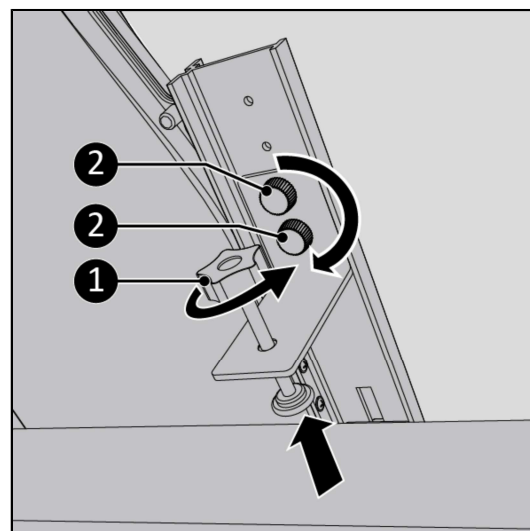

Figure 100.
11. Screw the clamping screw all the way back (Figure 100, pos. 1). If there is no space to fix the clamp bracket, this can be omitted. Then set the window in the ajar position, secured if possible.
13. Screw the clamp bracket to the main rail using the two knob screws (Figure 100, pos. 2).